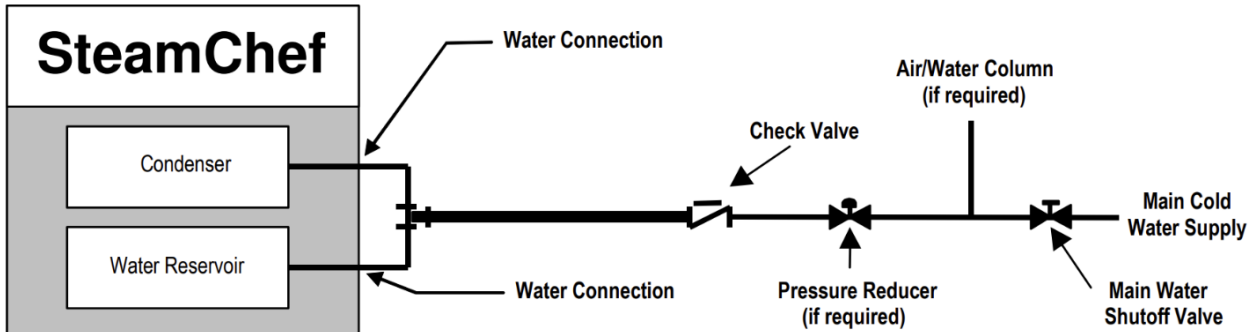

Figure 3-10 Cleveland Range Single Water Supply Arrangement
c) If the static pressure is above 60 psi, a pressure regulator must be used and set at approximately 50 psi. Pressure above 60 psi can damage solenoid valves. See Figures 3-10 and 3-11.
g) If the supply of water meets the requirements shown in the Warranty, then the Single Water Supply Arrangement shown in Figure 3-10 may be used.